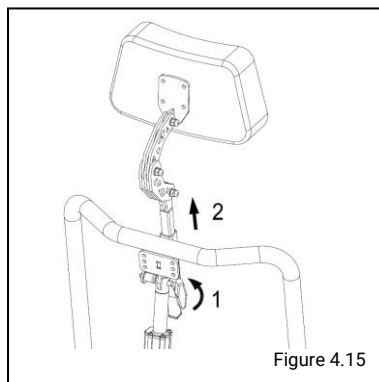

Figure 4.15
**4.6 Headrest Height (fig 4.15).**